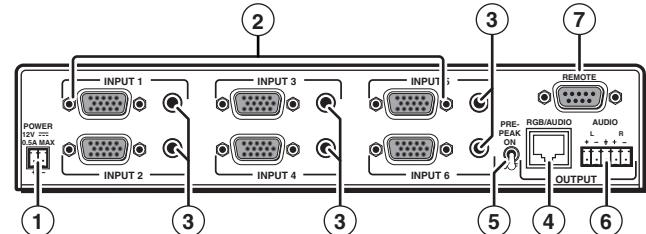

Figure 2-6 — SW6 MTP T switcher rear panel
All connectors are on the rear panel (figure 2-6). Depending on the model of the switcher, the number of connectors on the rear panel varies.
The Pre-Peak switch alters the TP signal output to correct for long cable runs. See item ⑤ on figure 2-6 on page 2-7 and on page 2-9 and the table on page 1-4 for suggested switch settings based on the transmitted video format and transmission distance.